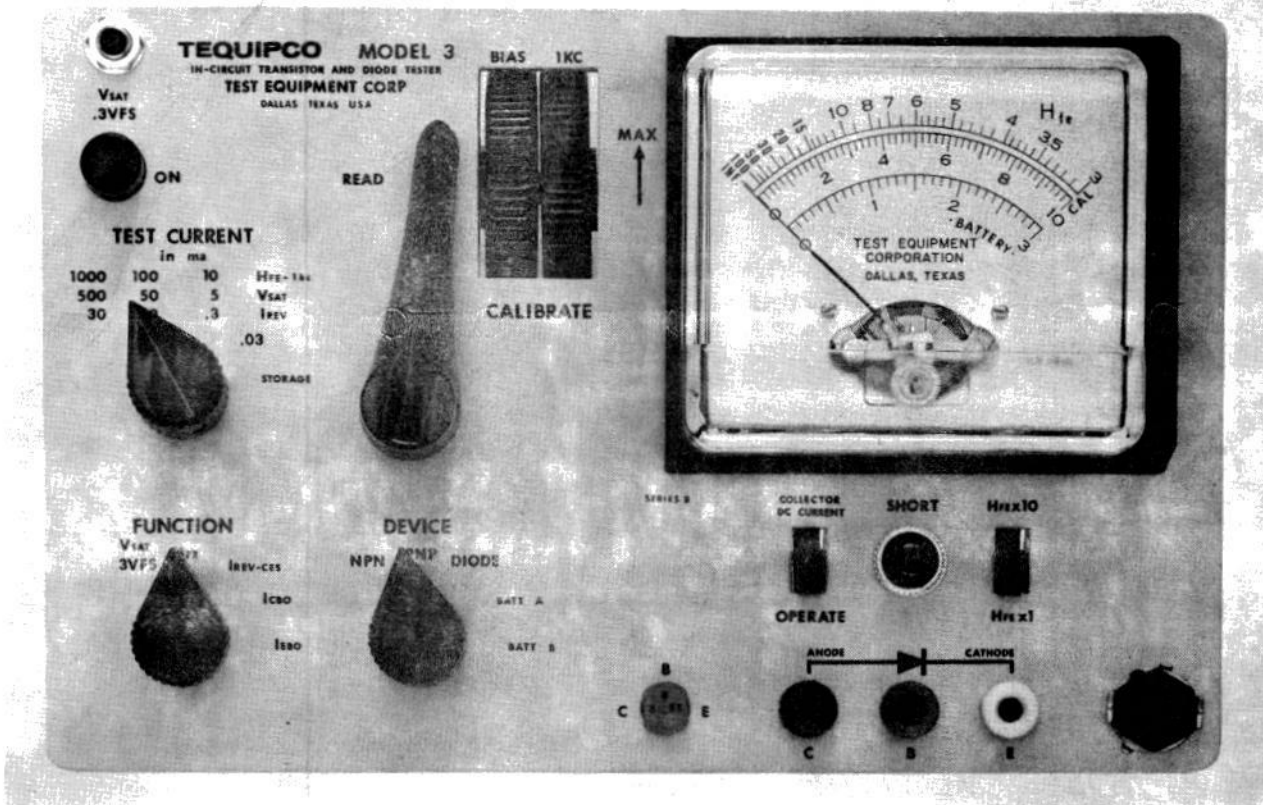

Figure 3-1 MODEL 3B PANEL
3.1.1 Switches (Refer to Figure 3-1)